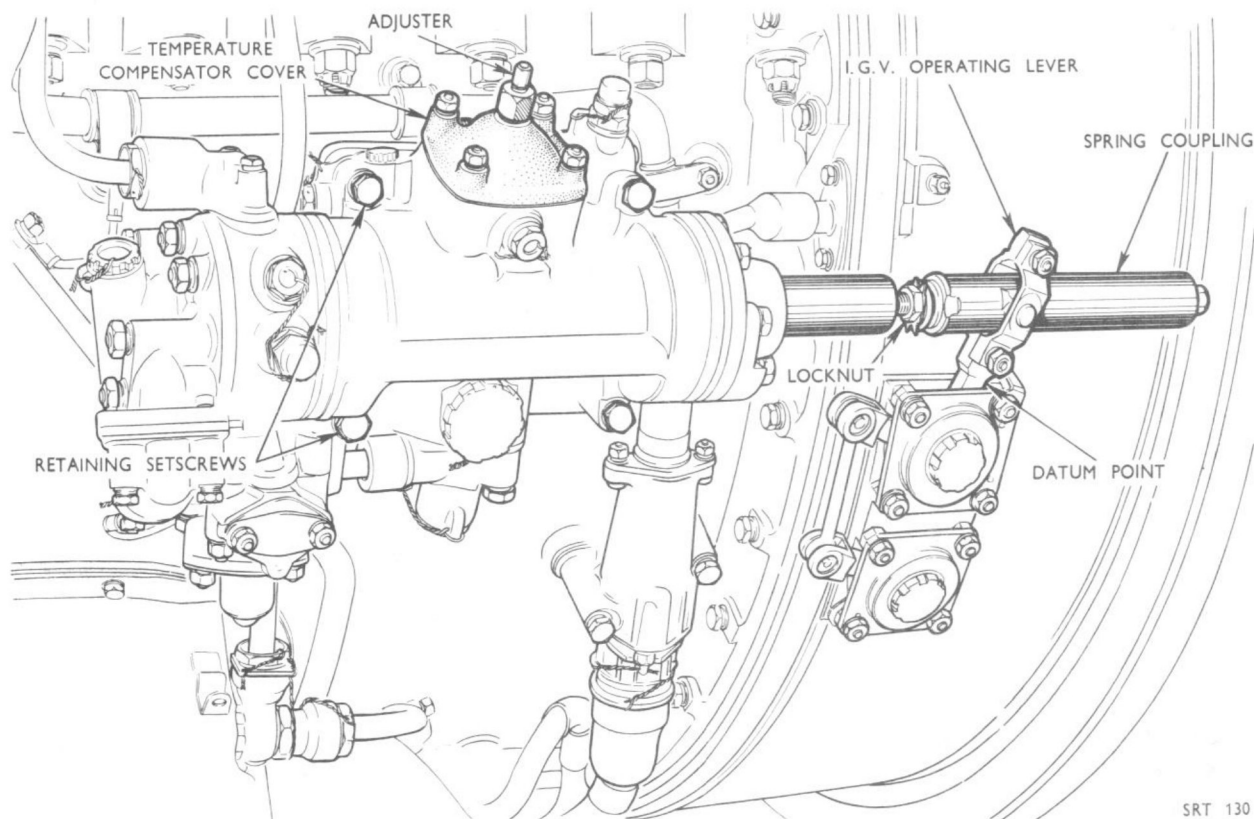

Fig. 3 Intake guide vane ram
15. After fitting, check by hand that ram piston travel is limited only by its front and rear internal stops then, with the ram fully extended, measure the clearance between the flat of the i.g.v. operating lever and the adjacent datum point on the lever bearing housing (fig. 3). The clearance should be 0.150 in. If necessary, adjust by unscrewing the locknut between the ram piston rod and the spring coupling and turning the large front nut in the required direction. When adjusting is complete, with the i.g.v. operating lever fitted, fully tighten the locknut.
19. To adjust the i.g.v. ram setting, slacken the adjuster (fig. 3) locknut and turn the adjuster clockwise to increase the rev/min at which the ram operates, and vice versa. Tighten the locknut each time the adjuster is turned.